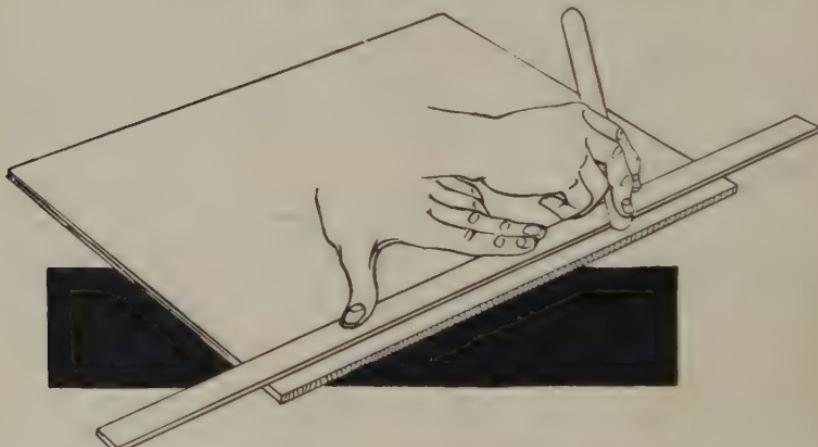

FIG. 271—CREASING SECTIONS WITH FOLDER
6. Carefully crease each section *on both sides* one-quarter inch away from glued edge by using edge of bone folder run *firmly* along a straight edge laid lengthwise on section. Fig. 271. This will make book open easily.